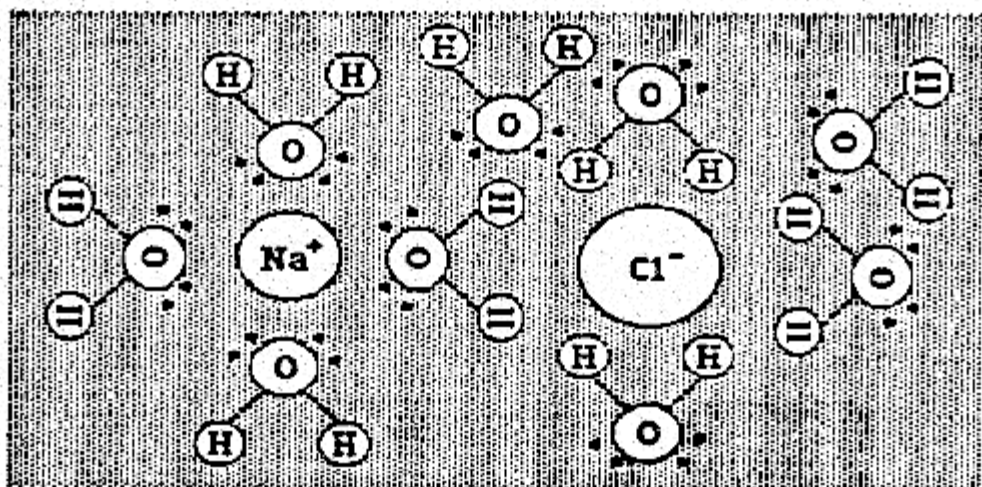

Figure 2: Na⁺ and Cl⁻ Hydration Sphere
water molecules. Since water molecules are polar (i.e., they have concentrations of "charge" on different parts of the molecule), they surround the individual sodium and chloride ions in such a way that they can still move through the solution, but do not recombine (this statement pertains to an unsaturated solution, which we shall discuss in greater depth in a future lesson.) Figure 2 shows how this might look if we could observe ions and molecules. This interaction between water molecules and ions is known as hydration. In this process, we see the "breaking" of ionic forces in the crystal, the breaking of hydrogen bonds in water and the formation of ion-dipole interactions in the solution.
4. How does CaCl_2 exist in solution? (Hint: Figure 2).